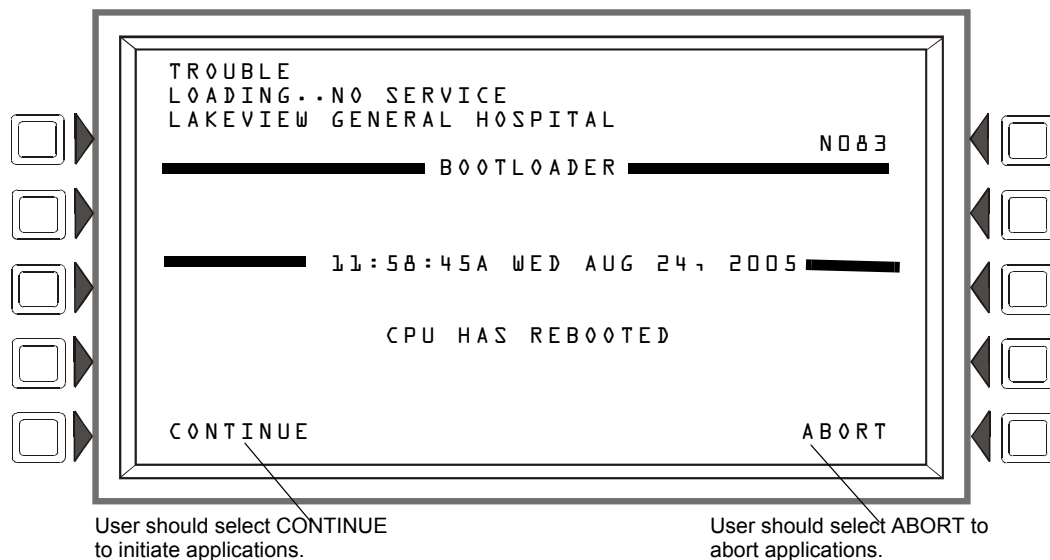

Figure I.2 Singapore Application Initiation
- Requires the user to initiate the start of the application when the panel boots/reboots. The CPU Failure LED will be ON until the user initiates startup. (Refer to Figure I.2.)